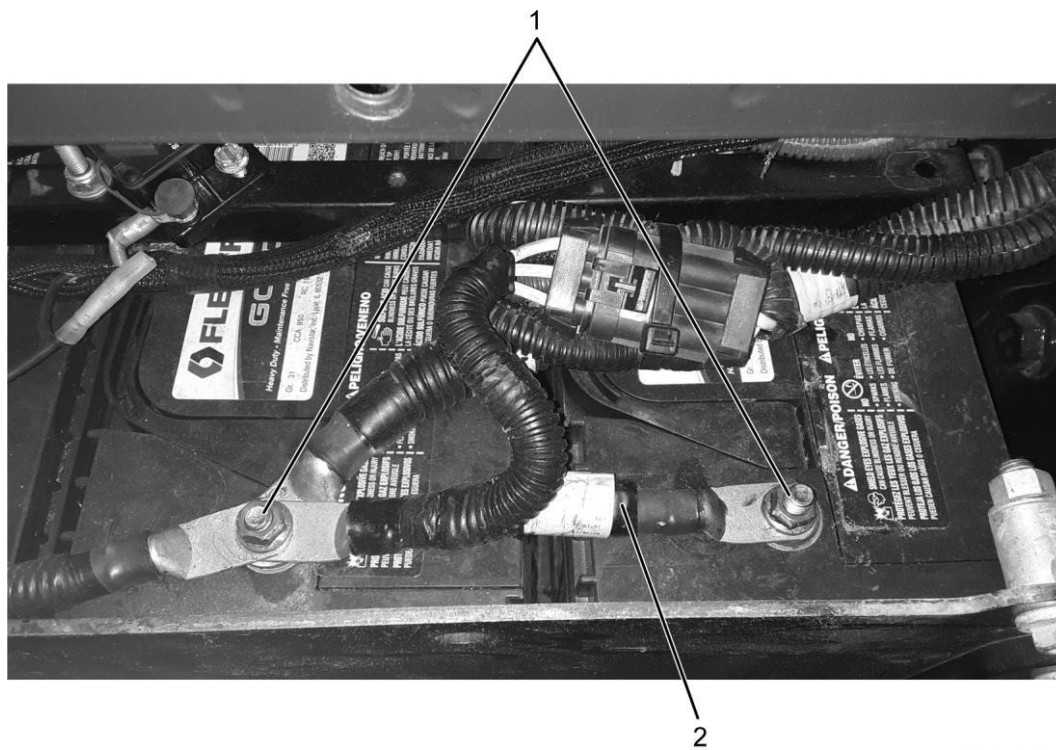

Figure 1. Battery Cables
1. Negative battery nut (2)
6. Inspect negative suspect interconnect cable (Figure 1, Item 2) by moving the BLACK conduit from the end of the cable.
7. Remove both negative battery nuts (Figure 1, Item 1).